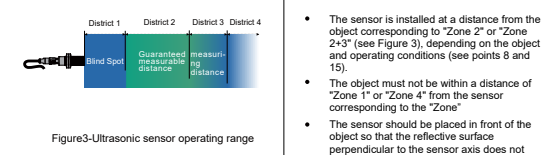

Figure3-Ultrasonic sensor operating range
- The sensor is installed at a distance from the object corresponding to "Zone 2" or "Zone 2+3" (see Figure 3), depending on the object and operating conditions (see points 8 and 15).